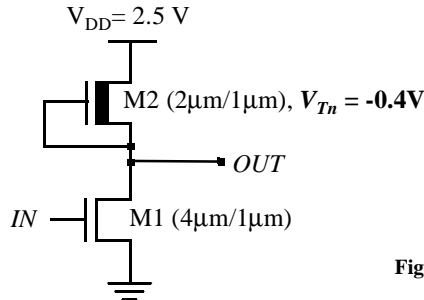

Figure 5.5 A depletion load NMOS inverter
7. Consider the circuit in Figure 5.5. Device M1 is a standard NMOS device. Device M2 has all the same properties as M1, except that its device threshold voltage is *negative* and has a value of $-0.4V$. Assume that all the current equations and inequality equations (to determine the mode of operation) for the depletion device M2 are the same as a regular NMOS. Assume that the input IN has a $0V$ to $2.5V$ swing.